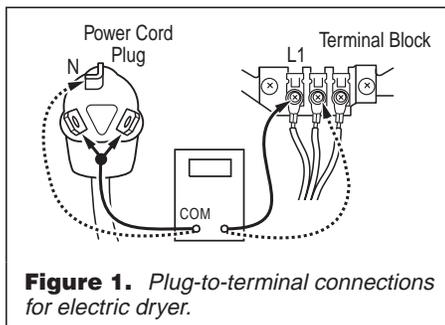

Figure 1. Plug-to-terminal connections for electric dryer.
3. With an ohmmeter, check for continuity between the neutral (N) terminal of the plug and the center contact on the terminal block. See figure 1.
4. In a similar way, check which terminal of the plug is connected to the left-most contact on the terminal block and make a note of it. This will be L1 (black wire) in the wiring diagram. See figure 1.
7. Check for continuity between the neutral (N) terminal of the plug and P1-2 (white wire) on the electronic control.